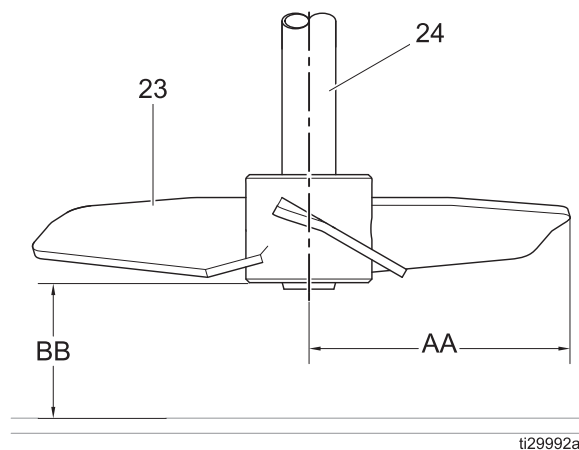

FIG. 3: Impeller Installation
- c. For pressure tank: See **Models 25C462, 25C470, 25C471, 25C465, 25C472, 25C473**, page 22 for parts identification. Place gasket (21) and bearing housing/flange assembly (A) on pressure tank cover. Install and secure with lock washer (32) and nut (22). Tighten securely to prevent assembly from rotating.
2. Install the retaining ring (6) in the machined slot in the agitator shaft (24).
4. Slide the impeller (23) (see FIG. 3) onto the shaft (24) so the blade is pushing material down with the blade turning clockwise when viewed from above. Shaft can be moved up and down in the bearing housing to install the impeller.
5. Position the impeller along the shaft as required: The distance from the tank bottom to the lowest impeller blade (BB) should be 1/2 to 1-1/2 times the impeller blade diameter (blade diameter is determined by measuring the distance from the tip of the impeller to the shaft center (AA) and multiplying by two).